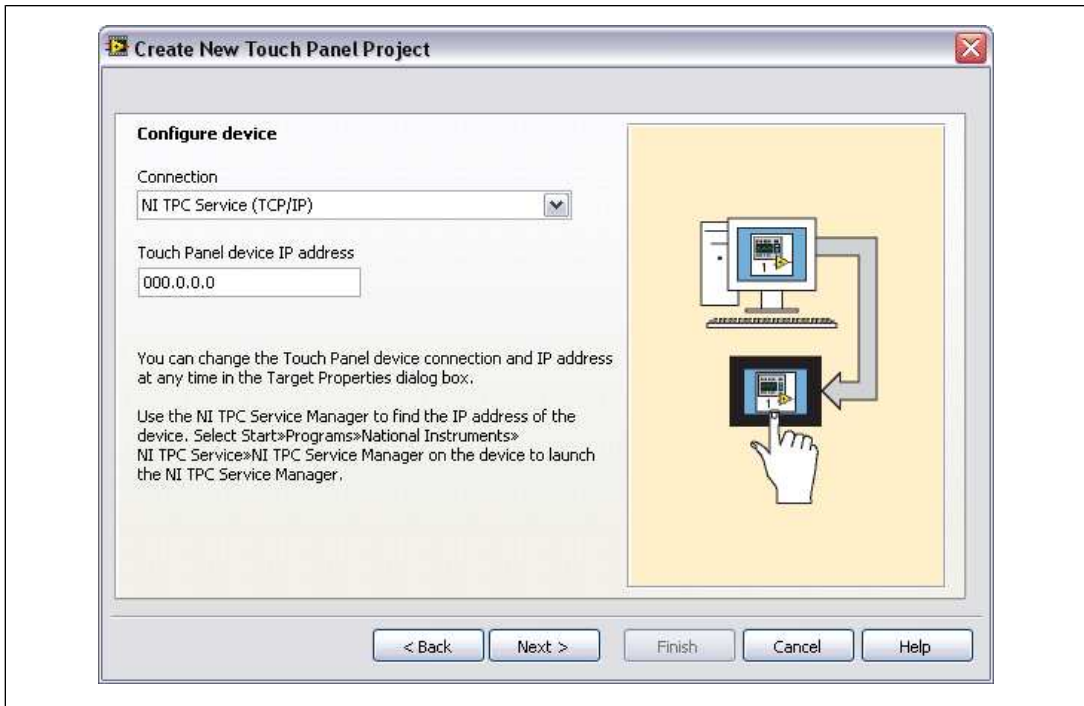

Figure 13. Configuring the Device
6. Configure connection information for the device. Enter the IP address for the device in the **Touch Panel device IP address** text box, as shown in Figure 13.